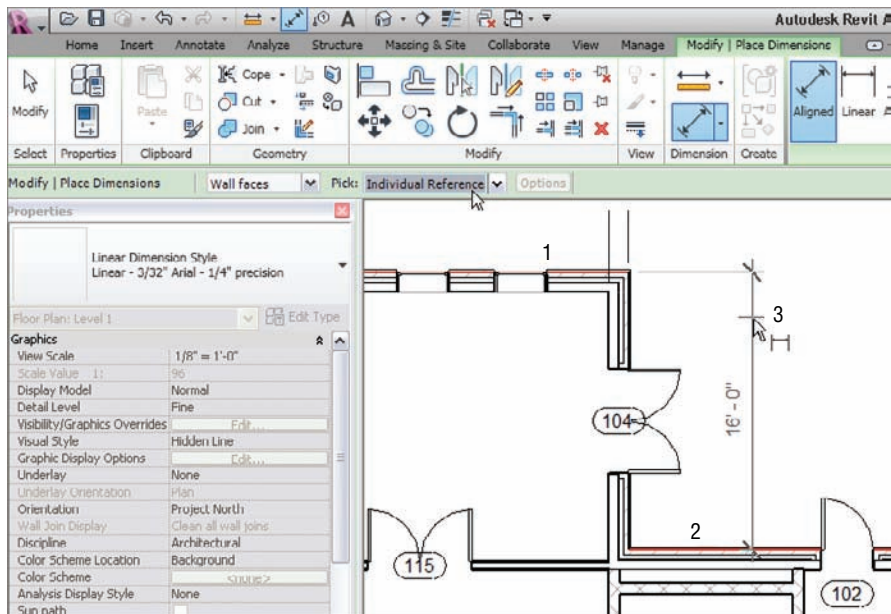

FIGURE 5.6 Placing the dimension by picking two objects
1. Zoom in on the northeast portion of the east wing, as shown in Figure 5.6.
3. On the Options bar, choose Individual References from the Pick menu, as shown in Figure 5.6, and do the following:
- a. Pick the north wall marked 1 in Figure 5.6.
- b. Pick the horizontal wall that ties into the radial wall, illustrated as 2 in Figure 5.6.
- c. Place the dimension about 8' (2400mm) to the right of the vertical wall, marked as 3 as shown in Figure 5.6.